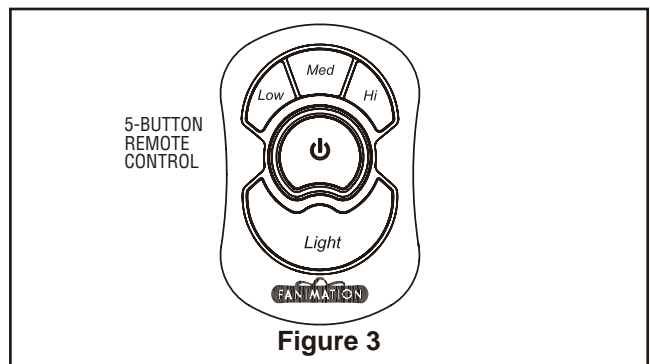

Figure 3
- 3. The 5-button hand-held remote transmitter includes five buttons for high, medium and low fan speeds as well as fan off and light on/off. Infinite light levels are available by holding the light on/off button (Figure 3).